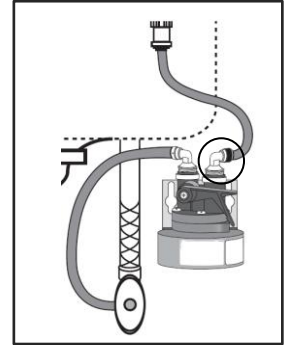

Fig. 9
4. Insert other end of tubing into **(D)** Outlet of **(B)** Quantum Head. **(Fig. 9)**